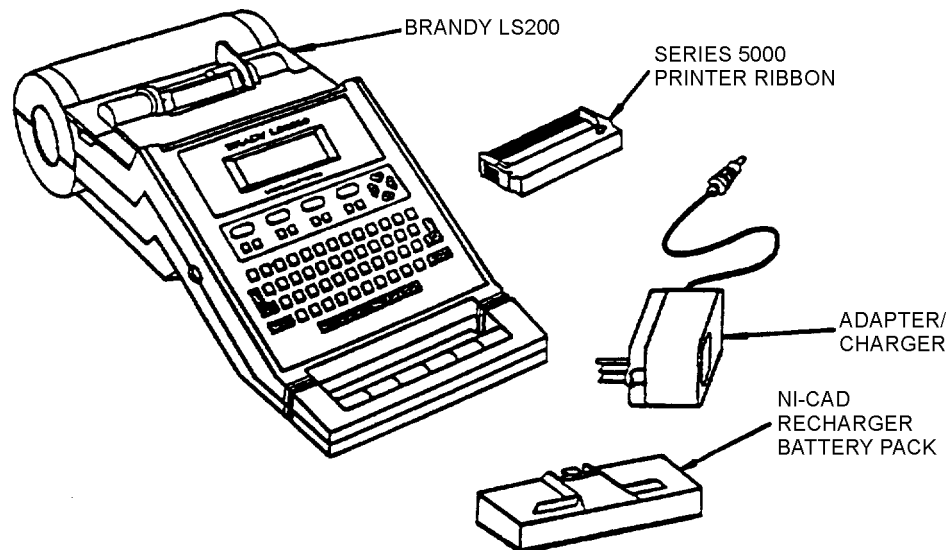

Figure 9. Brady LS2000 Labeling System
41. **DESCRIPTION.** The Brady LS2000 is a portable, self-contained, high resolution, shuttle head impact printer (Figure 9)